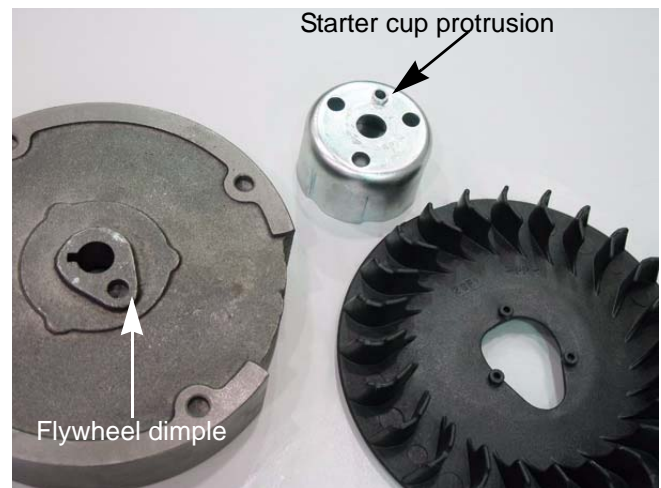

Figure 6.28
**NOTE:** If the engine has a cast iron flywheel; install a starter cup by placing the starter cup on the flywheel. Allow the protrusion on the bottom of the starter cup to rest inside the dimple in the flywheel with the plastic fan trapped in between the two. See Figure 6.28.